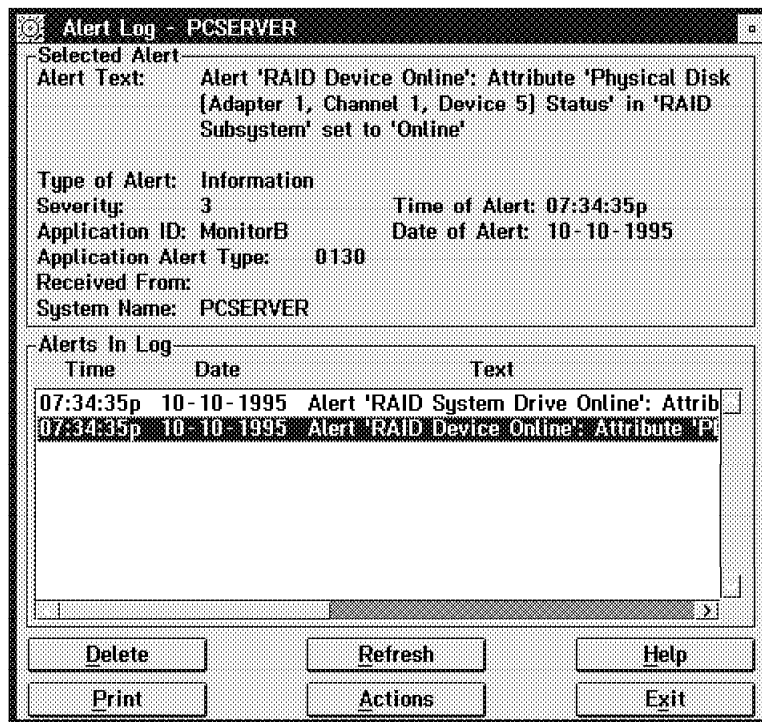

Figure 138. NetFinity Alert - New Disk Online
12. NetFinity sends two alerts. The NetFinity Manager looks like Figure 138.